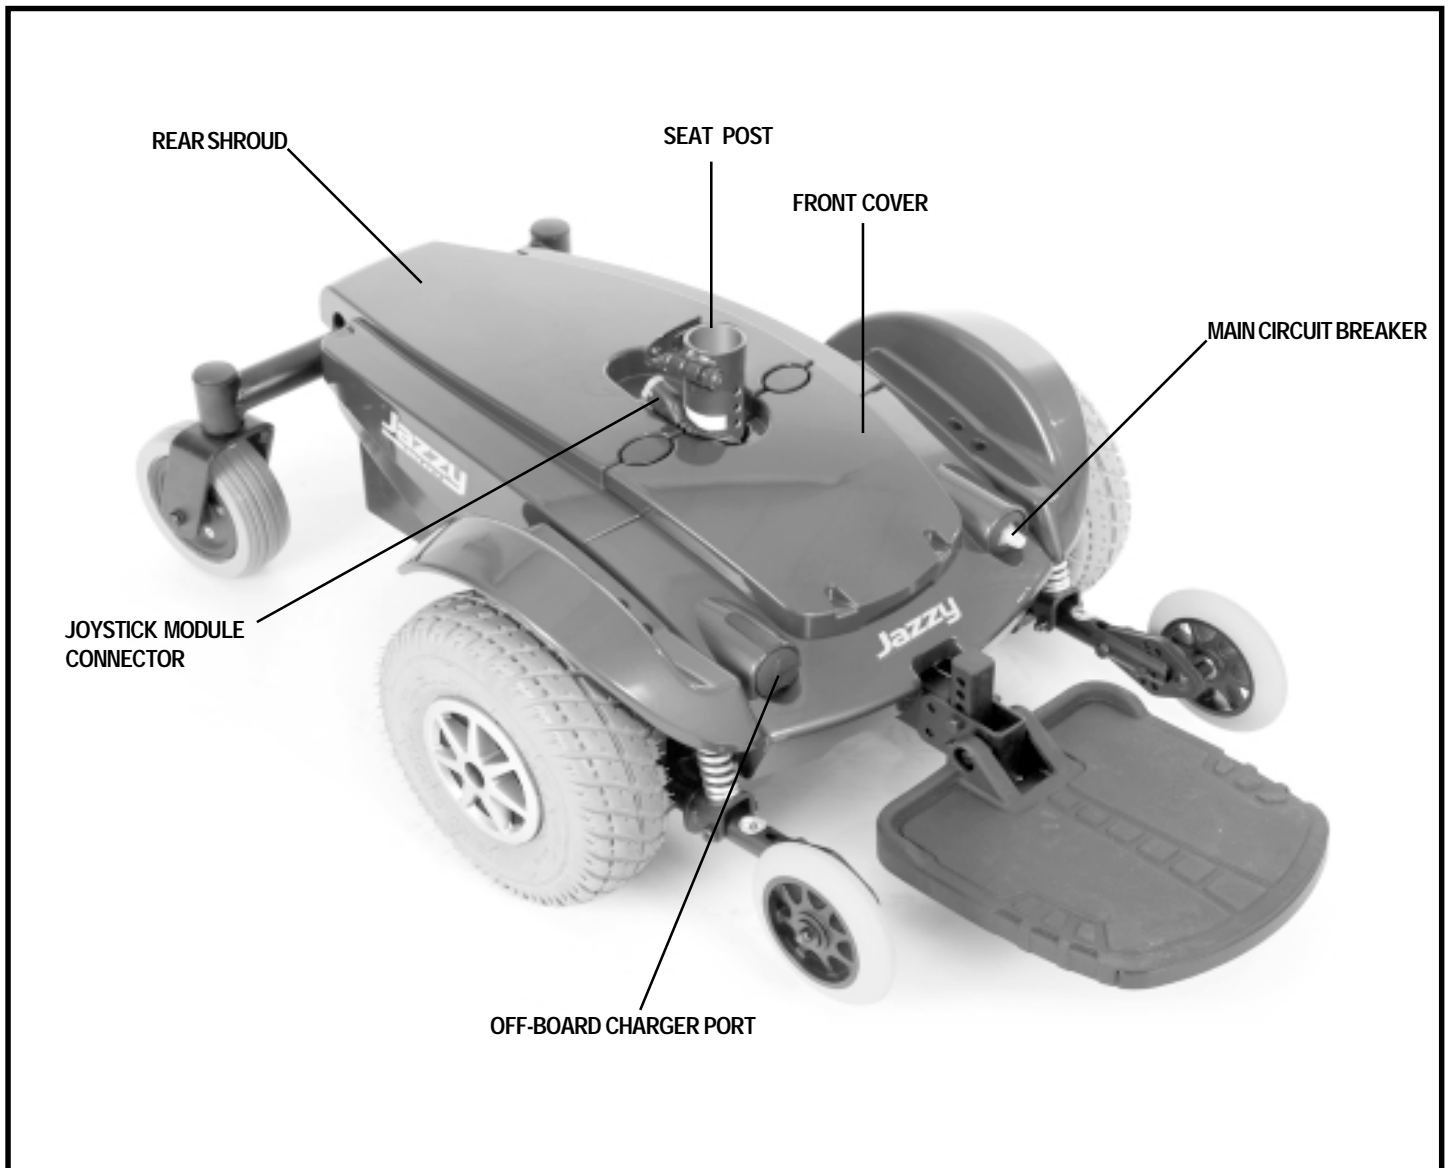

Figure 6. The Jazzy Select Power Base
The electrical components are located either on or inside the power base. The main circuit breaker and off-board charger port are located on the front of the power base. The power module is located under the front cover. See figures 6 and 7.
5. Plug the joystick module cable into the connector on the power base. See figure 6.
11. Plug the controller connector into the power base. See figure 6.